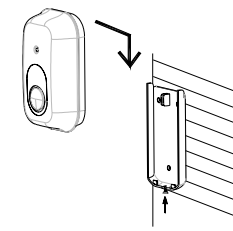

FIGURE 7
- Slide the unit down to the rear cover and lock the screw clockwise (FIGURE 7).